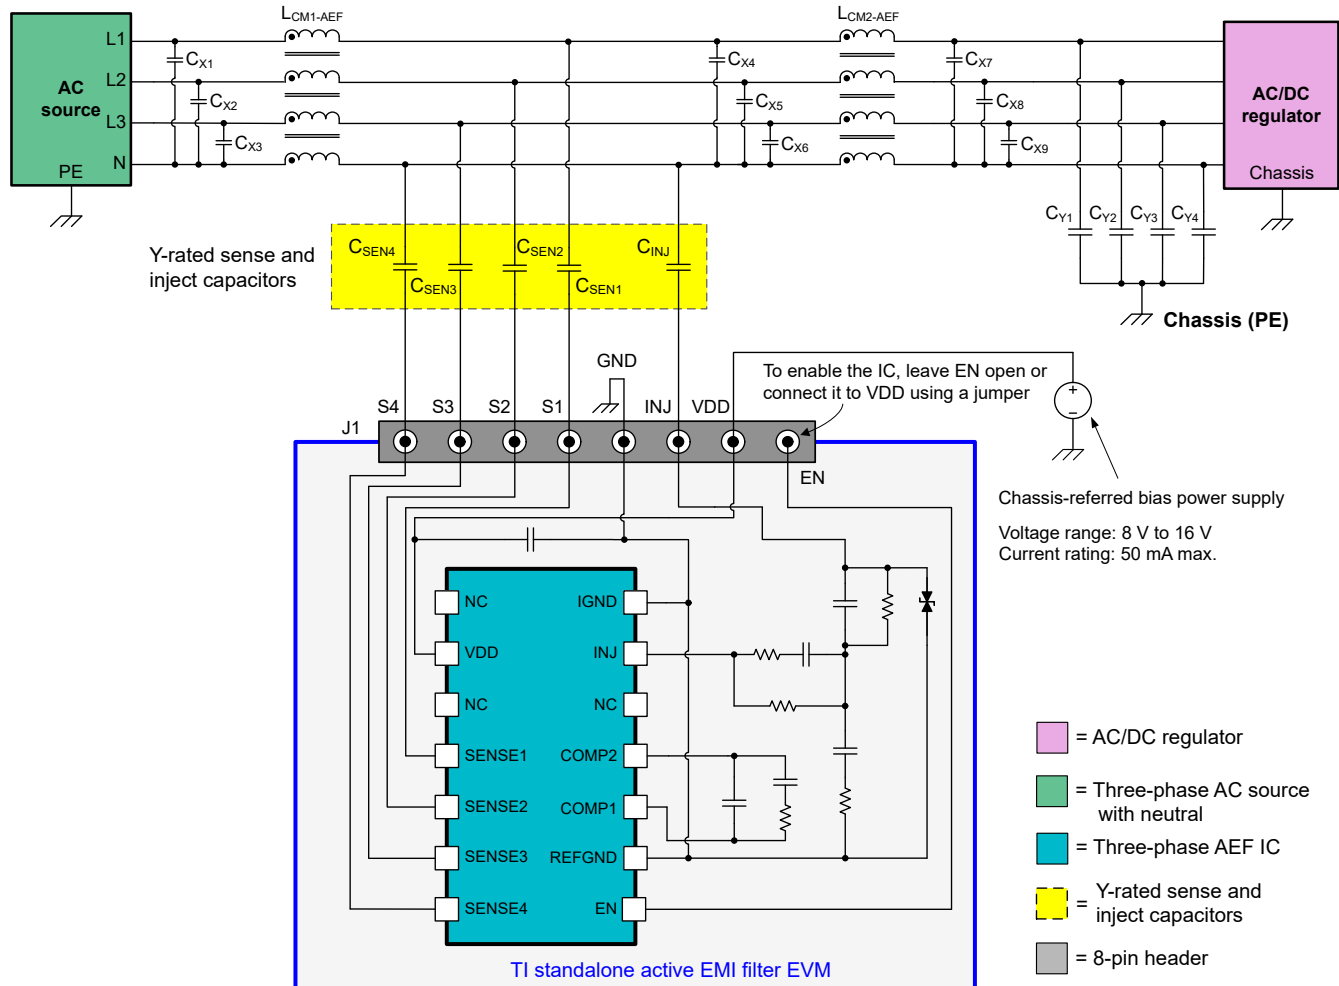

Figure 4-1. EVM Setup Schematic for a Three-Phase, Four-Wire System
Referencing the header connections described in Table 4-1, use the recommended setup from the schematic of Figure 4-1 to evaluate the performance of the TPSF12C3-Q1 in a three-phase, four-wire system. The AEF circuit effectively replaces the Y-capacitors normally placed between the CM chokes (and tied from power lines to chassis ground) in a conventional 2-stage, 4th-order CLCL fully passive CM filter design. (1) (2)